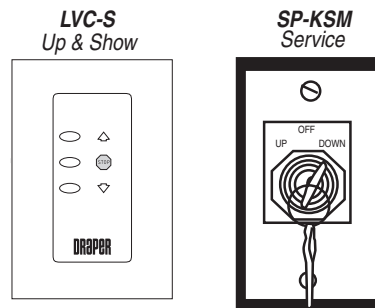

Figure 1
**Standard Single Station Low Voltage Control (See Fig. 1)**—One three-button switch with "Up", "Down", and "Off" buttons. Lift starts up or down when appropriate button is pressed, and may be stopped by pressing "Off" button. Factory set limit switches stop lift automatically when projector is in "show" position. One momentary key switch lowers lift from "Show" to "Service" position.